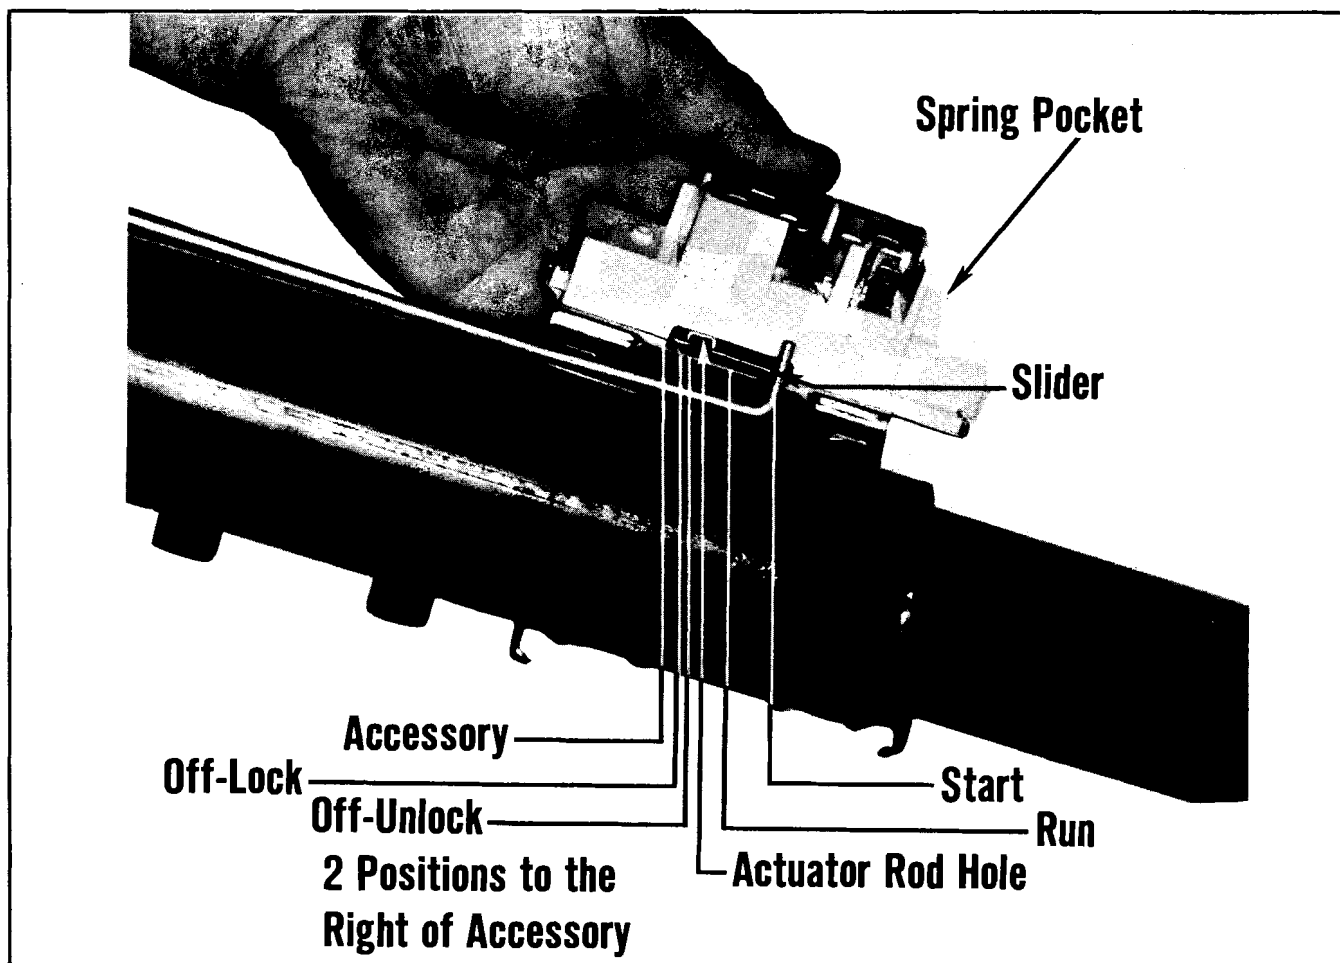

Fig. 12-101 Installing Ignition Switch (Standard Column)
7. Move actuator rod hole in switch to LOCK position (Fig. 12-101 and 102).
1. Position the switch as it is shown in Figure 12-101.